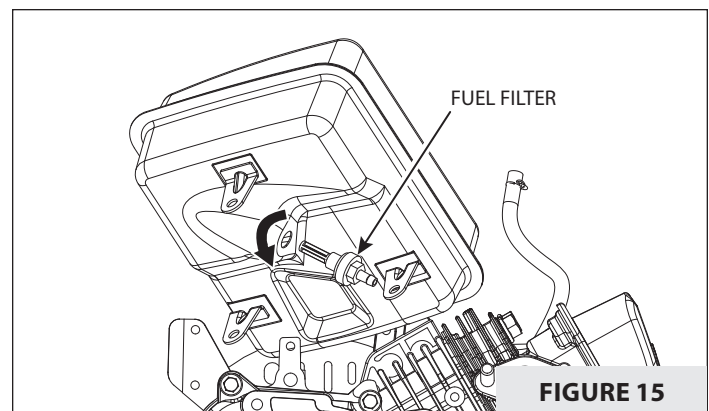

FIGURE 15
6. Remove fuel tank filter by using proper size socket to turn filter counter clockwise. **SEE FIGURE 15**